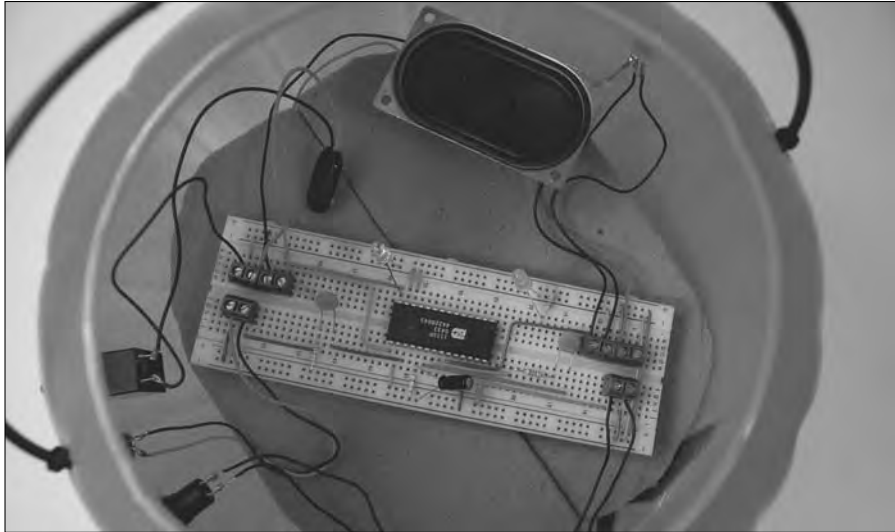

Figure 9-27:
15. Place the breadboard and speaker on the foam. Then slip the on/off switch, microphone, and IR detector through the holes you cut, as shown in Figure 9-27.
16. Tuck the wires off to the side; refer to Figure 9-27.
17. Slip the record switch through the hole you cut for it and secure it with the supplied nut; refer to Figure 9-27.